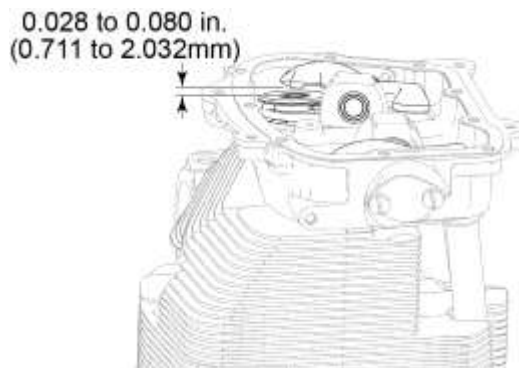

Figure 36
- (1) Push in on the push rod end of the valve rocker.
- (2) Use a Valve Clearance Gage (ST-23) (Figure 35) to measure the distance between the end of the valve rocker assembly and the valve stem cap (Figures 36 and 37).
- (3) The distance must be between 0.028 and 0.080 in. (0.711 to 2.032 mm) (Figure 36).